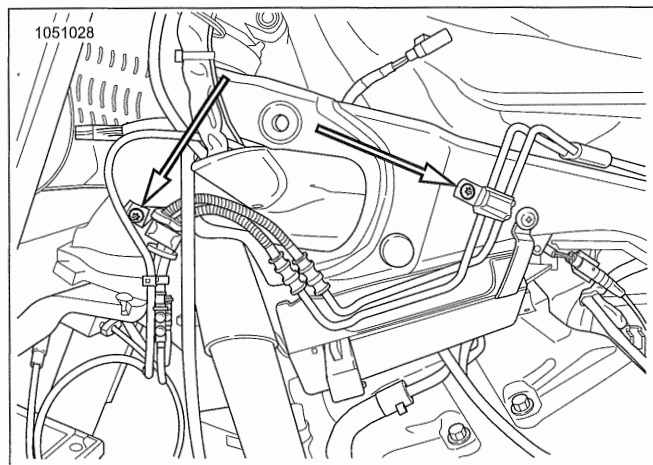

Figure 7-16. Brake Line Clamps
1. See Figure 7-16. Remove brake line clamp screws.
10. See Figure 7-16. Install brake clamp screws. Tighten.